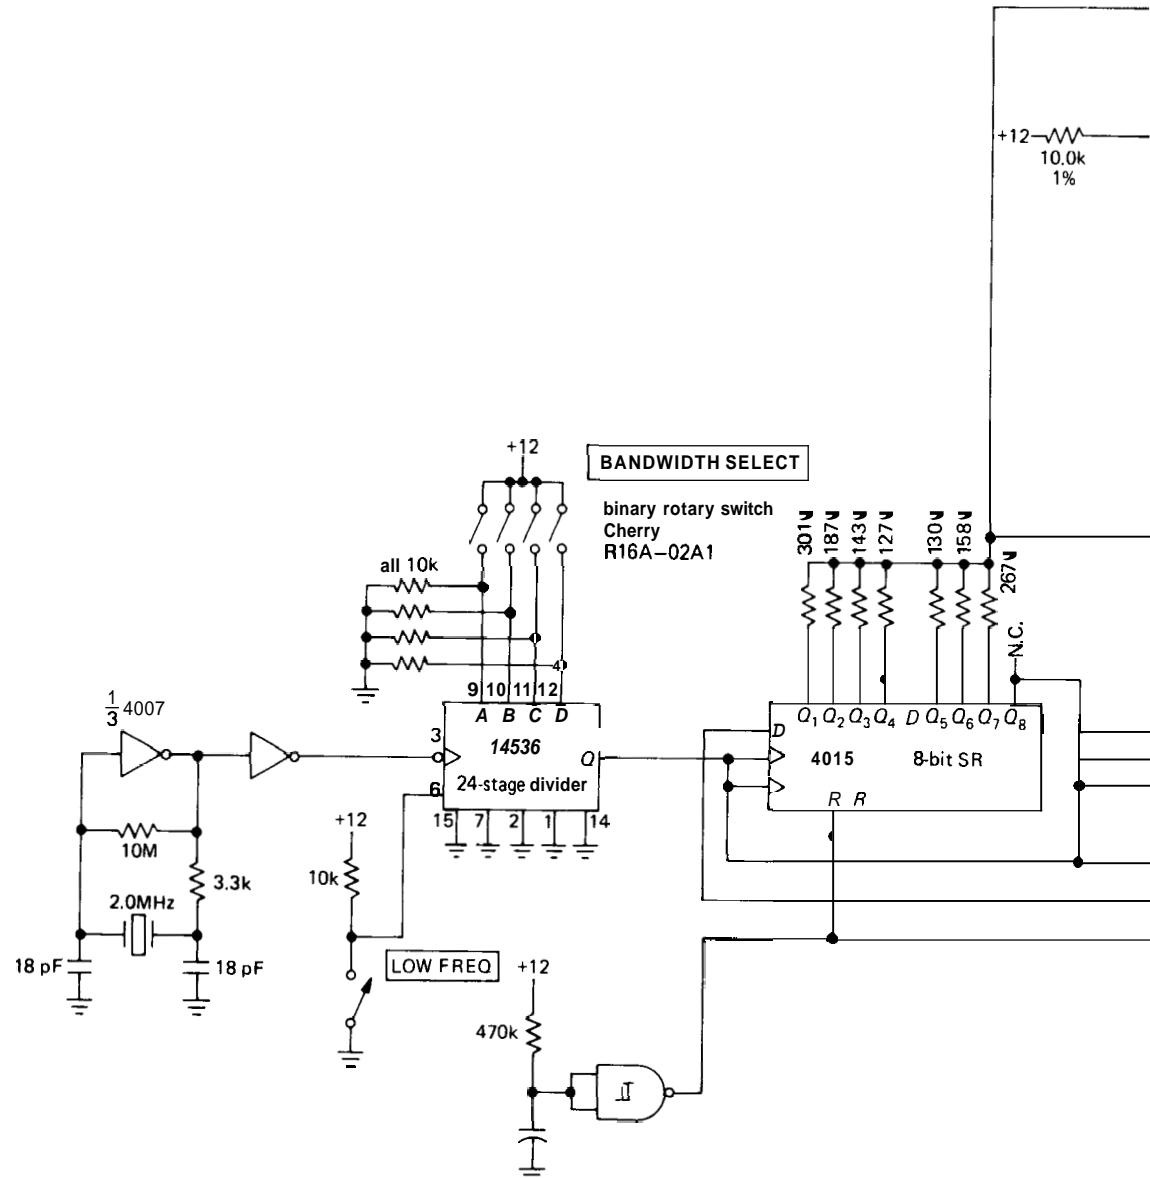

Figure 9.90. Wide-frequency-range laboratory noise source.
The circuit in Figure 9.90 generates pseudo-random analog noise, with bandwidth selectable over an enormous range, using this technique. A **2.0MHz** crystal oscillator drives a 14536 24-stage programmable divider, generating clock frequencies going from **1.0MHz** down to **0.12Hz** by factors going from **1.0MHz** down to **0.12Hz** by factors of 2. A 32-bit shift register is connected with feedback from stages 31 and 18, generating a maximal-length sequence with 2 billion states (at the maximum clock frequency the register completes one cycle in a half hour). In this case we have used a $(\sin x)/x$ weighted sum over 32 successive values of the sequence. U_1 and U_2 amplify the inverted and noninverted terms, respectively, driving differential amplifier U_3 . The gains are chosen to generate a 1.0 volt rms output with no dc offset into a 50 ohm load impedance (**2.0V** rms open circuit). Note that this noise amplitude is independent of the clock rate, i.e., the total bandwidth. This digital filter has a cutoff at about $0.05f_{clock}$, giving a white noise output spectrum extending from dc to **50kHz** (maximum clock frequency) down to dc to **0.006Hz** (minimum clock frequency), in 24 steps of bandwidth. The circuit also provides an unfiltered output waveform, going between **+1.0** volt and **-1.0** volt.
Figure 9.90 cont.
3. Verify that the peak output of the pseudo-random-noise generator (Fig. 9.90) is ± 8.68 volts.